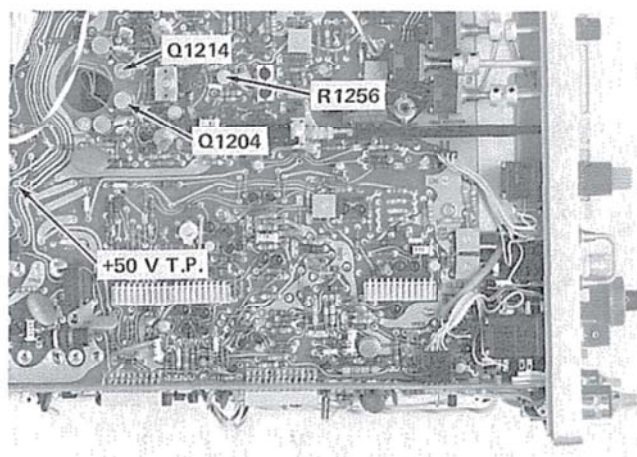

Fig. 5-26. Location of Q1204, Q1214, +50 V TP, and Horizontal Output Centering adjustment.
g. Alternately check the voltage on the collectors of Q1214 and Q1204 (see Fig. 5-26).
j. ADJUST—Horizontal Output Centering adjustment, R1256 (see Fig. 5-26), for +50 V on the collector of Q1214 and Q1204.